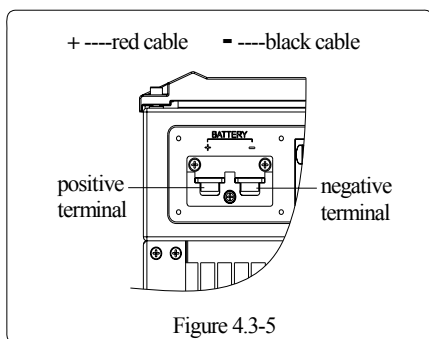
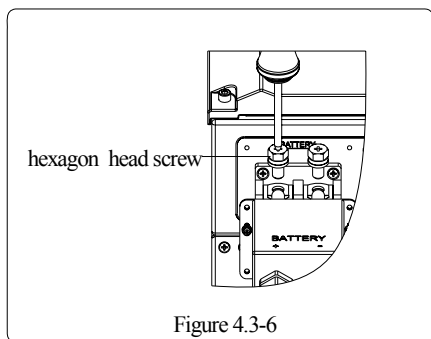
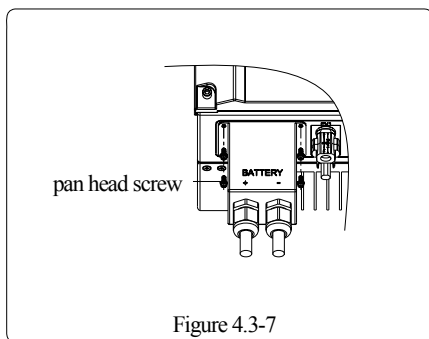

Figure 4.3-5
Figure 4.3-6
Figure 4.3-7
7. Put battery terminals into the corresponding holes and fasten them by screwdriver and spanner, then fasten battery cover with pan head screws in accessory bag. Refer to Figure 4.3-5、 Figure 4.3-6 、 Figure 4.3-7.